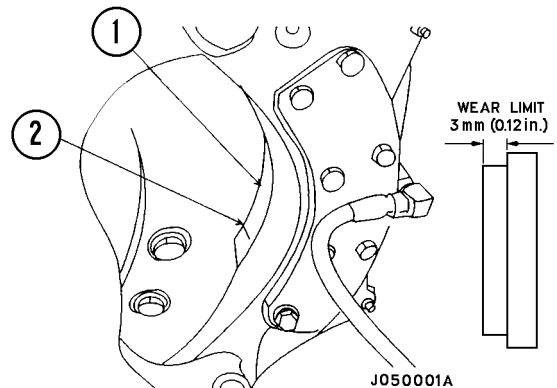

FIGURE 4-9. FRONT PAD WEAR
3. Check disc pad (1, Figure 4-9) visually, and if the pad has reached the wear limit line (2) or if disc material thickness is less than 3 mm (0.12 in.), replace the pad.